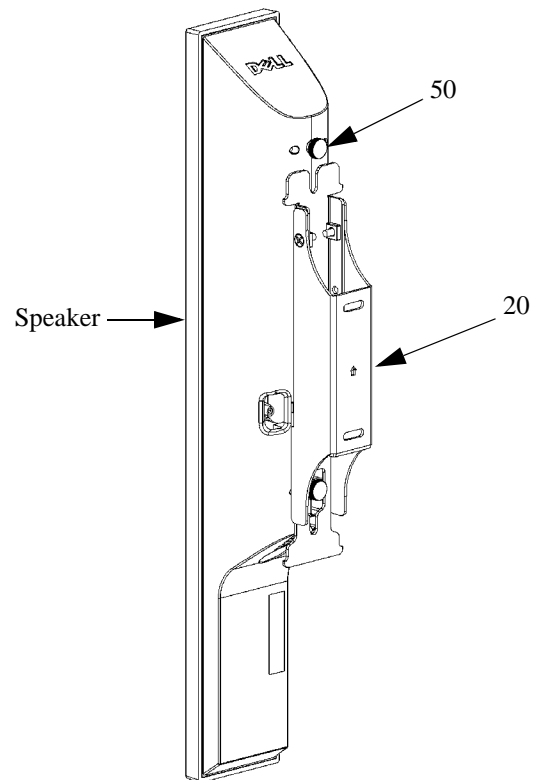

Figure 16: Loosen Two Thumb screws
1. While holding the speaker with one hand, remove the two thumb screws (50) and O-rings (110, not shown) that attach the speaker to the wall bracket (20). (see Figure 16).